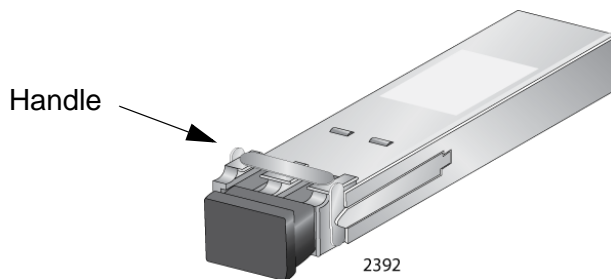

Figure 106. Handle on the XFP Transceiver
3. Orient the transceiver with the handle on top, as shown in Figure 106 on page 172.